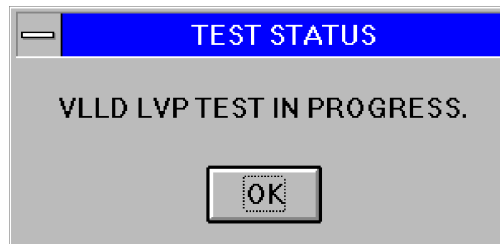

Figure 14. VLLD Test Status Window
3. If you click on the **CANCEL** button, the Priority Alarm window disappears from the screen, but no corrective action is taken. Click on the **OK** button to initiate a LVP test on the sensor (VLLD) that caused the alarm condition. The Priority Alarm window disappears from the screen and a Test Status window appears to confirm that the LVP test is underway [Figure 14]. Click on the **OK** button to clear the dialog box.